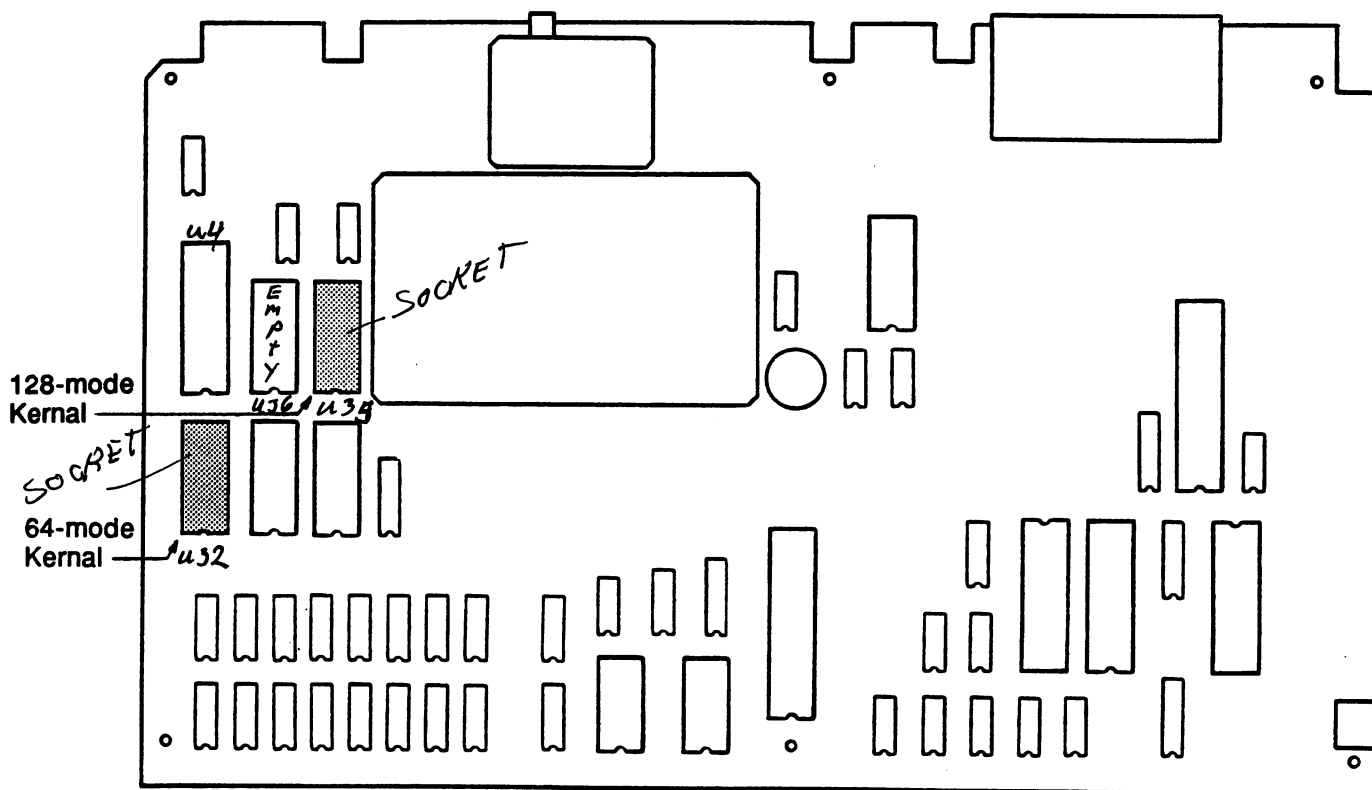

Figure 2 LOCATION OF C-128 KERNAL ROMS
10. Locate the 64 and 128-mode Kernal ROMs using the diagram in Figure 2. Remove both these ROMs from their sockets using the IC extractor or screwdriver. Lift the ROMs out by alternately prying each end upward a little at a time. If using a screwdriver, be careful not to damage the circuit board while prying. **For future reference, label the stock ROMs as they are removed.**